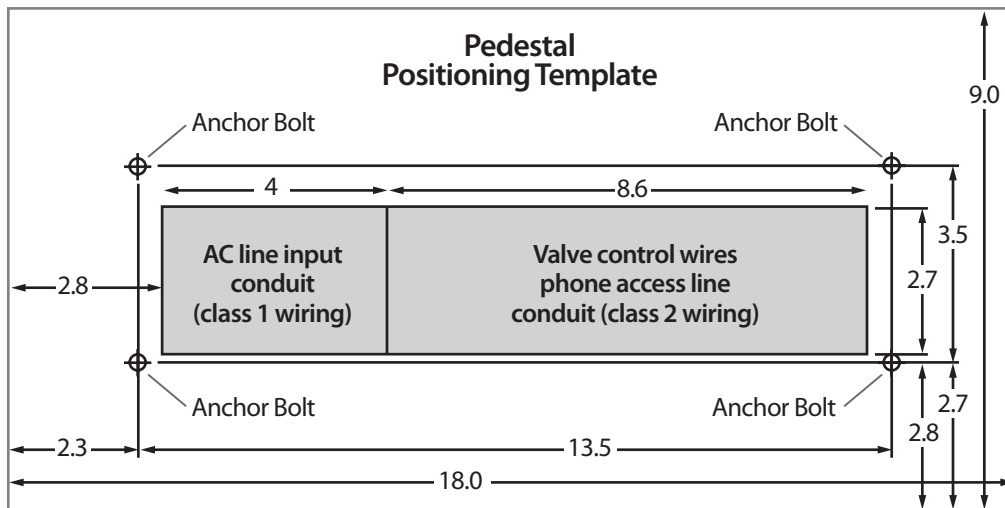

Figure 2
2. It is very important to ensure the sweep elbows terminate inside the footprint of the pedestal base, which is marked as the shaded area of the included positioning template. Sweep elbows for power should be installed to the left side of the base and elbows for other wiring to the right (see Figure 2).
4. Using the included positioning template (Figure 2) to ensure proper alignment, drive four redhead anchor bolts (included) into the concrete base.